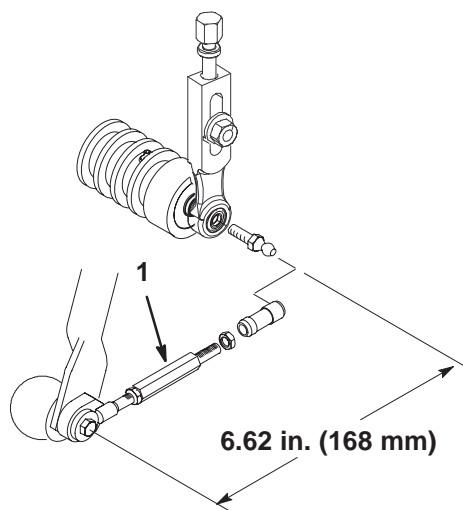

Figure 6
3. Install new longer pull arm extensions to pull arms and ball joint receivers (Fig. 6).
4. Adjust pull arm extensions to attain dimension shown in Figure 6. Tighten jam nuts.